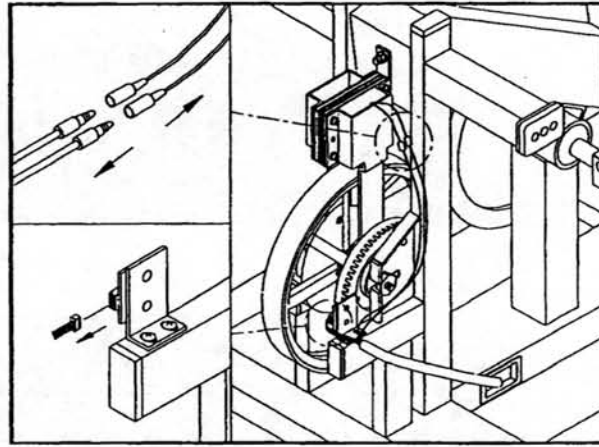

Fig.4-1
2. Unplug the terminals of the ELECTROMAGNET and the plug of the OPTICAL SWTCH (see fig 4-1).